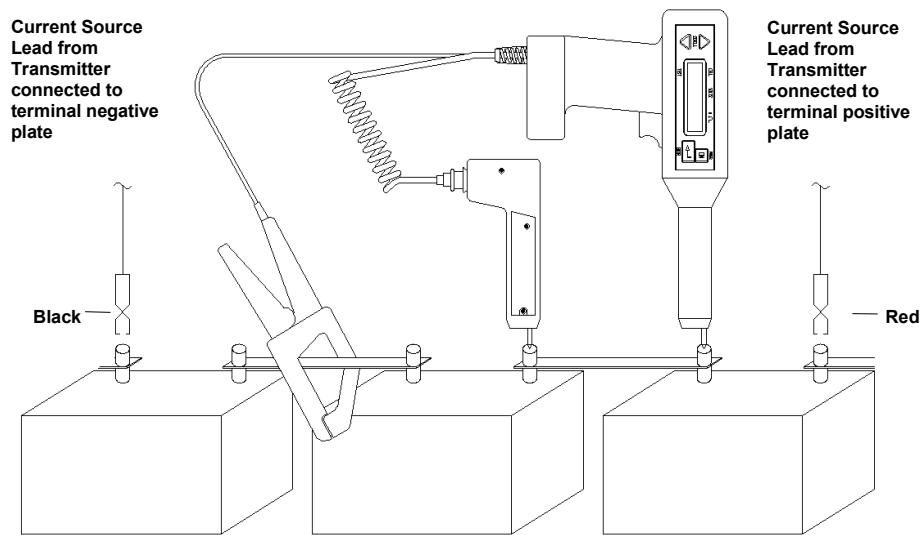

Figure 5-7: Receiver and potential probe positioned on top of battery strap terminals
4. Position the **receiver** and potential probe on top of the battery strap terminals, and then press the probes down. See the sample placement shown in Figure 5-7.
See the sample placement shown in Figure 5-7 on page 36.